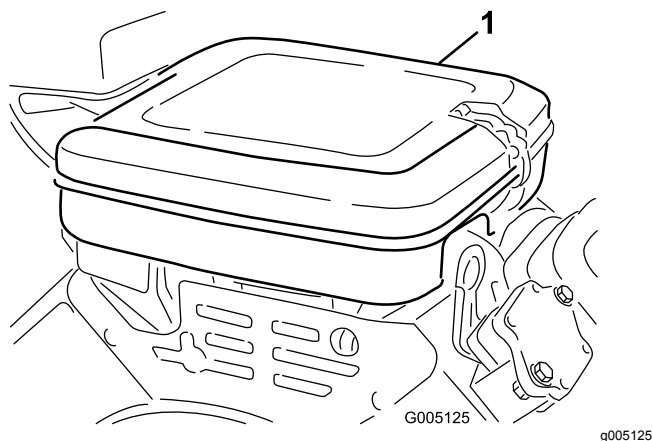

Figure 40
1. Clean the air-cleaner cover (Figure 40).